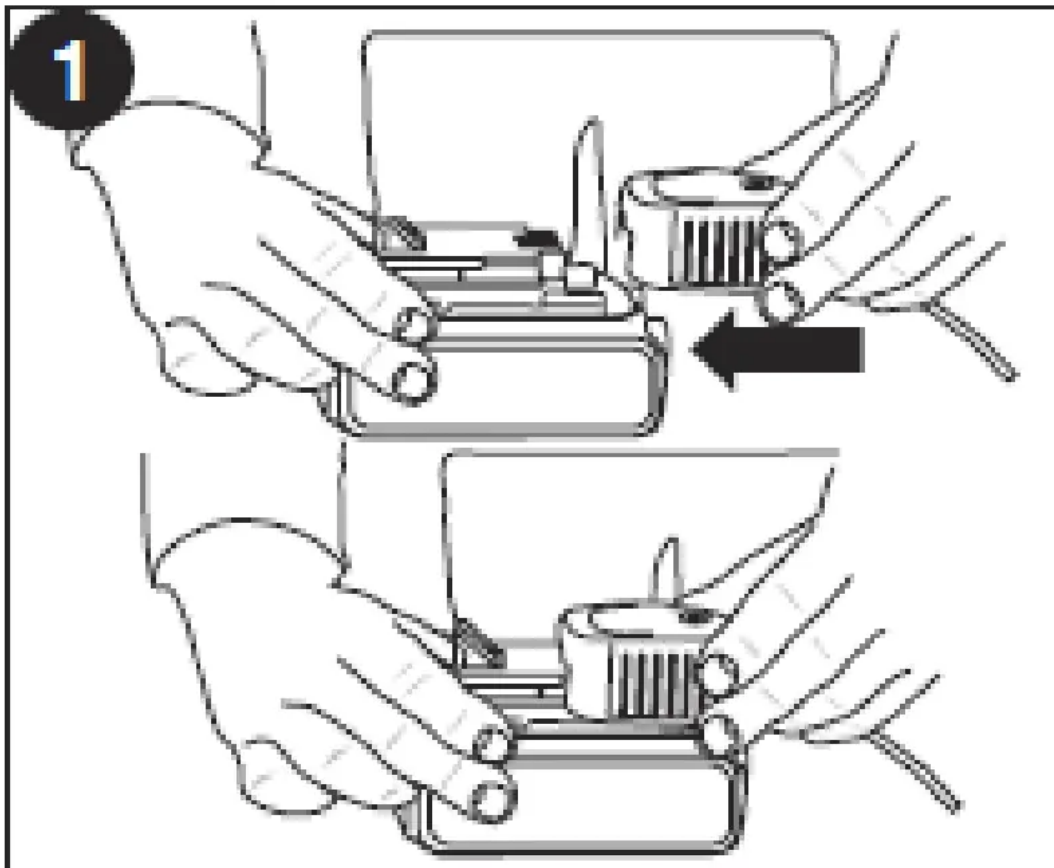

Figure 1
2. Insert the battery pack into the charger as shown in figure 1